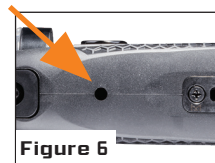

Figure 6
3. Locate the degassing screw located on the bottom of the stock in front of the trigger guard (Figure 6).